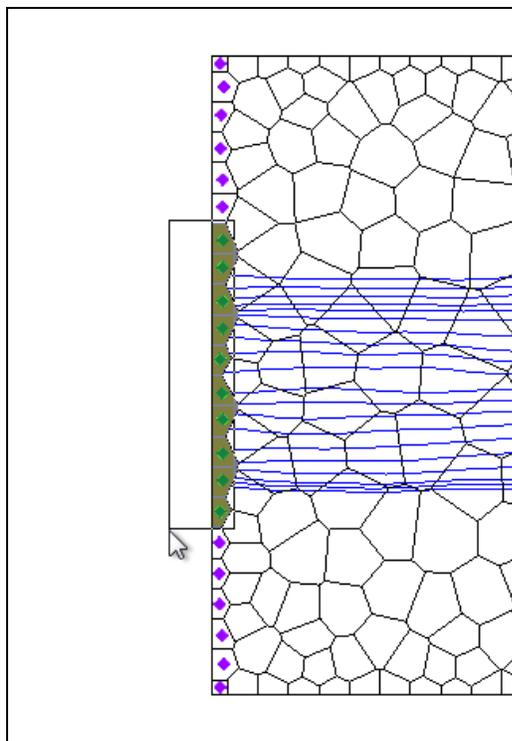

Figure 8 Selecting cells on the left side of the UGrid.
2. Using the **Select Cells**  tool, drag a box that selects the cells on the left side of the grid in the area where the existing pathlines are, as shown in Figure 8. Include some cells above and below the existing pathlines. If more cells are selected than just the ones on the edge, that's fine.